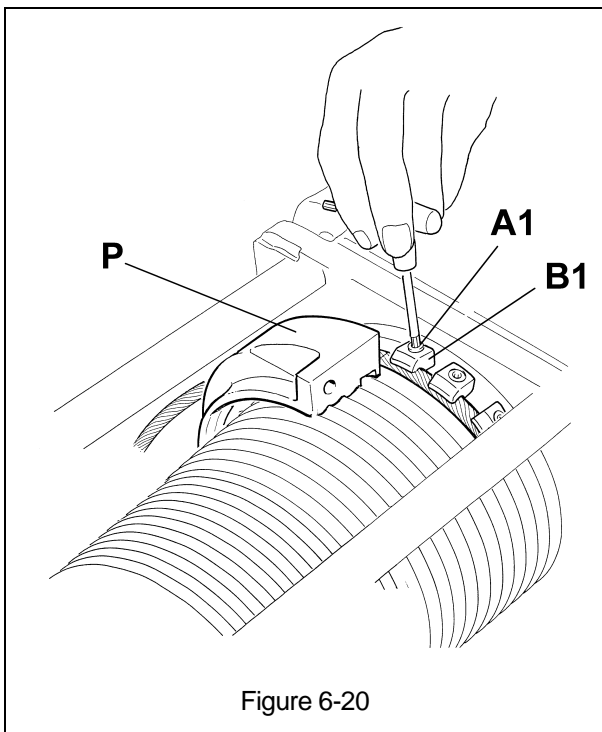

Figure 6-20
14) Loosen the Screws (A1) of the Wire Rope Clamps (B1) and take out the Wire Rope and Ring Half (P) (see Figure 6-20). For 4/1 Ultra-Low headroom versions it is necessary to rotate the Ring Half (P) over the top of the drum to remove it from the hoist (see Figure 6-21).